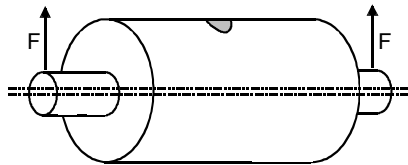

Figure 75: Static balance
**Static balance** occurs when the rotor axis and the mass axis are not coincident, but both axes are parallel to each other. Figure 75 shows the amount and direction of the resulting unbalance forces. The force acting on both bearings is the same.